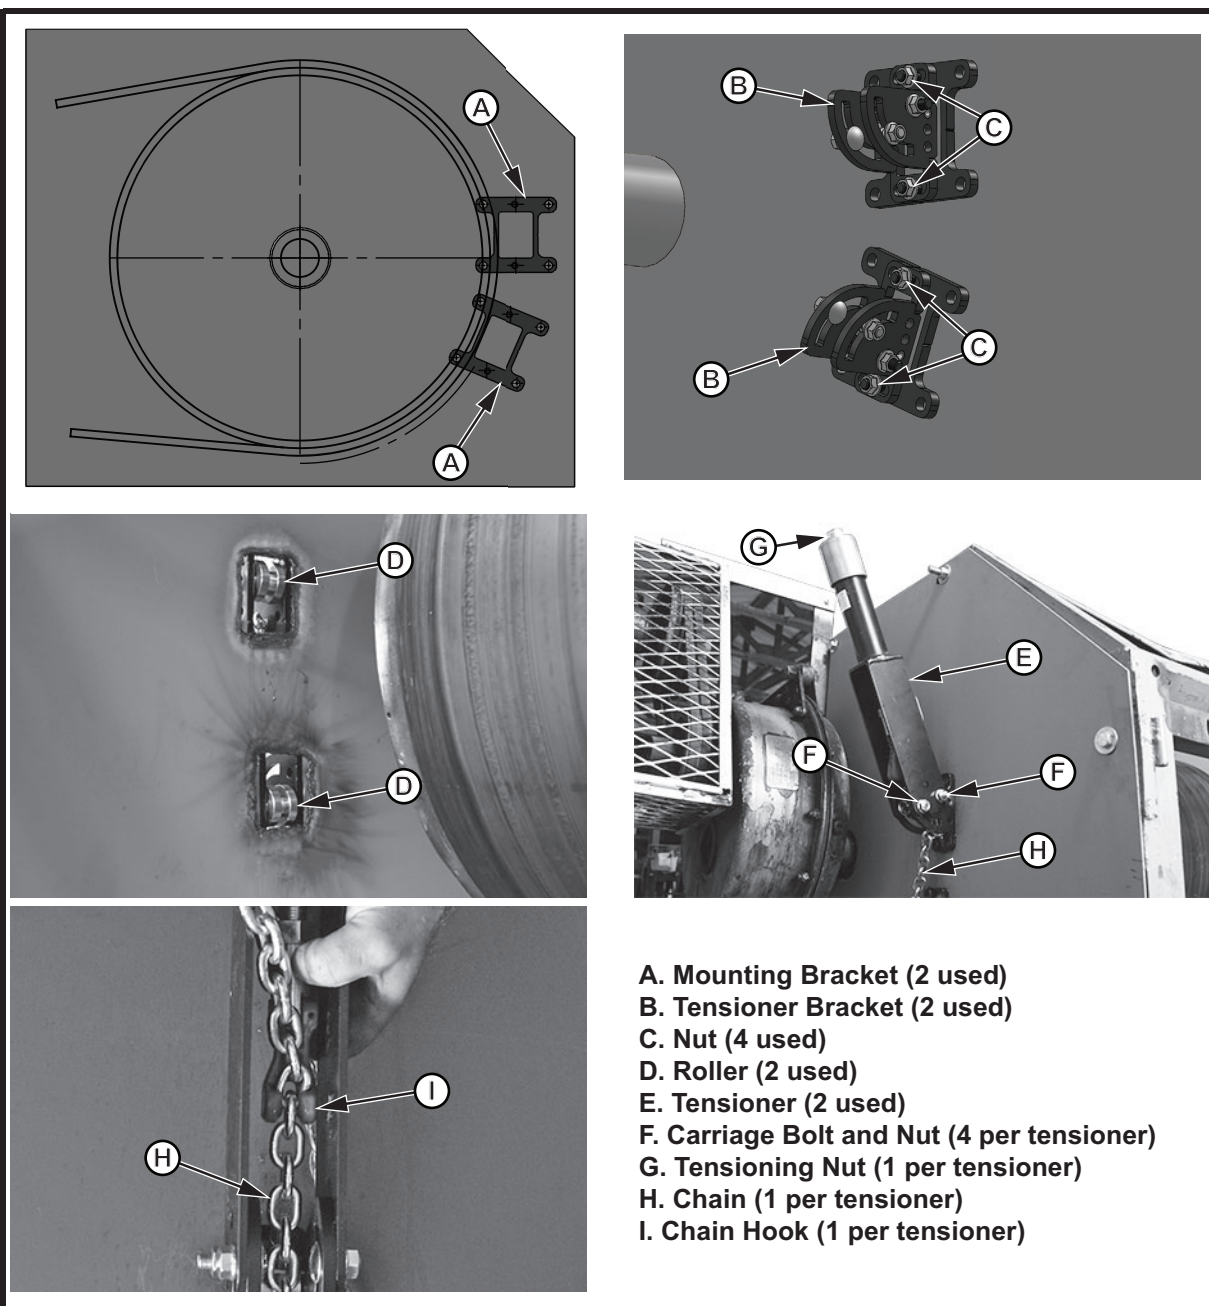
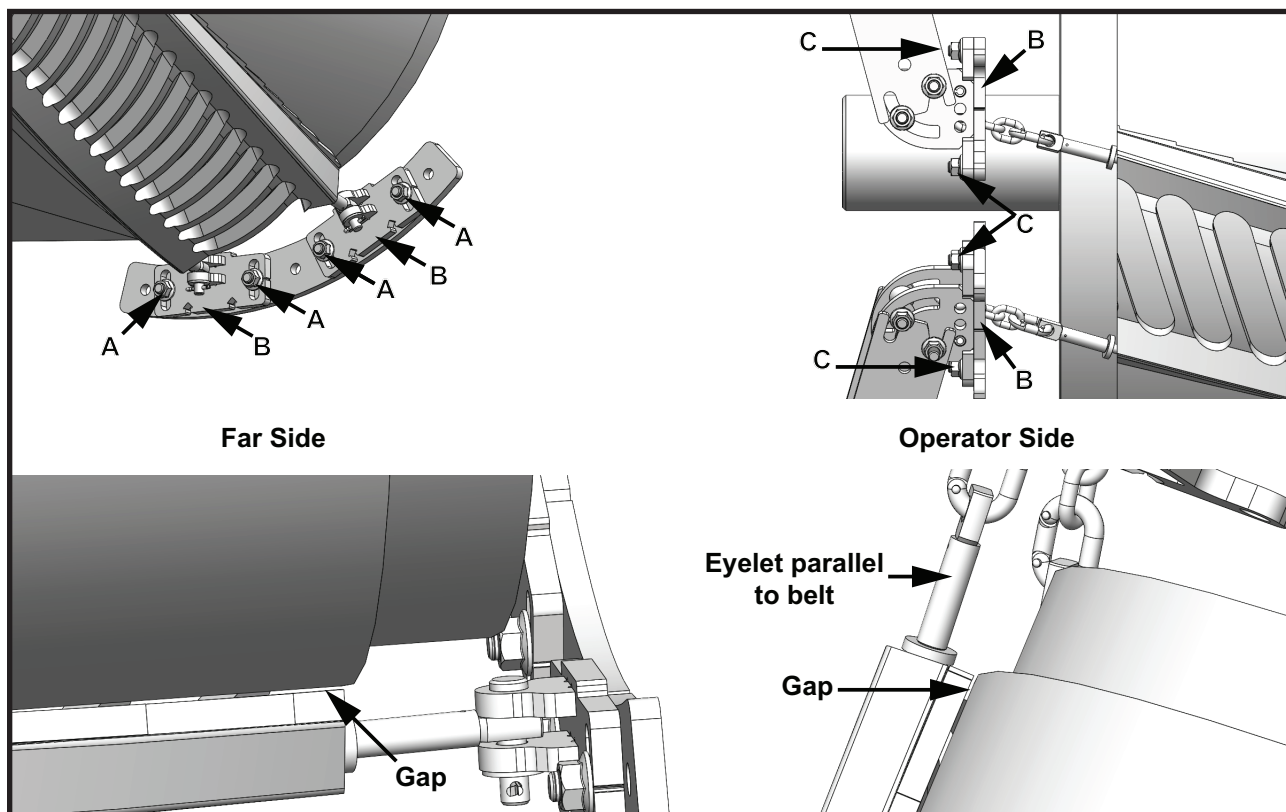

Figure 8. Installing Tensioners
Figure 9. Positioning Cleaner
- f. Center mounting brackets (A) on cutouts and weld or bolt to chute wall (see Figure 8).
- g. Mount tensioner brackets (B) onto mounting brackets (A) using nuts (C). Hand tighten nuts. Position top bracket with roller (D) in the upper position and bottom bracket with roller (D) in the lower position.
7. Mount tensioner (E) onto bracket using carriage bolts and nuts (F).
8. Position tensioner (E) in desired location free from obstructions and tighten nuts (F).
9. Loosen nut (G) to the end of the threaded rod.
11. Route chain (H) through chute wall and tensioner bracket (B).
12. Pull chain into hook (I).
14. Ensure eyelets are parallel to belt (Figure 9).
15. Tighten tensioner nut (G) until center of cleaner is held firmly against head pulley.
16. Make sure each chain contacts roller in tensioner bracket (B) properly.
- a. If threaded spindle is not long enough to achieve desired tension (see Figure 8):
- (1) Insert screw driver through hole in the lower part of the tensioner and chain (H), to secure the chain.
- (2) Loosen tensioning nut (G) to release tension.
- (3) Reinstall chain in hook (I) as close to the screw driver as possible.
- (4) Tighten tensioning nut until required tension is achieved.